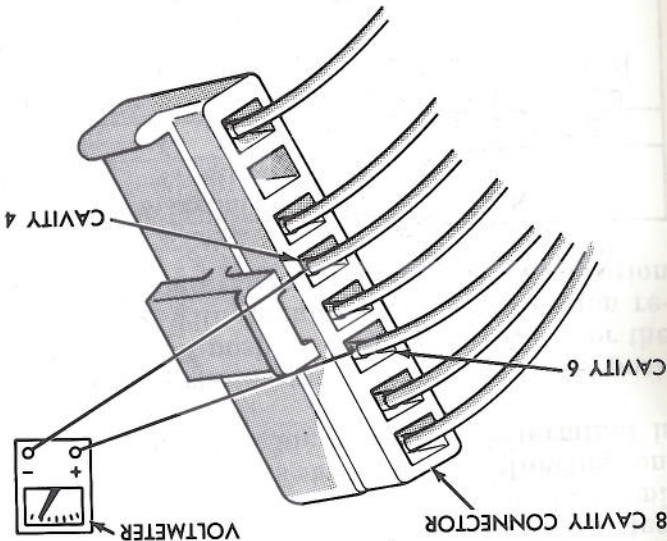

Fig. 3—Voltmeter Connected to Cavity 4 and 6
- (2) Place switch in maximum delay (dwell) position.
- (3) Connect voltmeter between cavity 4 and cavity 6 (Fig. 3).
- (4) If voltmeter reads zero check switch and wiring.
- (5) If voltmeter reads 10 to 15 volts continue as follows.